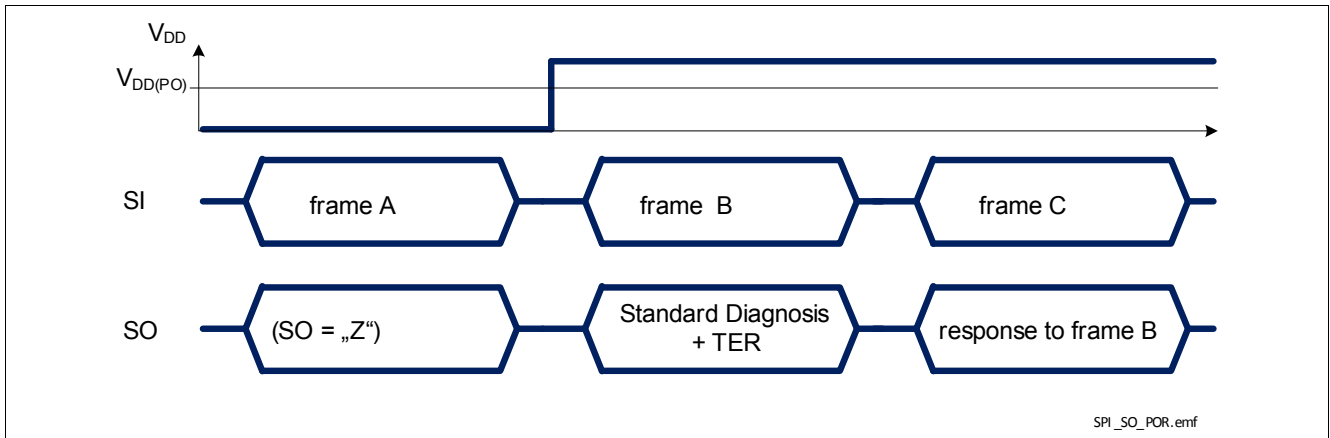

Figure 33 BTS54040-LBE response after coming out of Power-On reset at V_{DD}
- when BTS54040-LBE logic supply comes out of Power-On reset condition, as shown in Figure 33